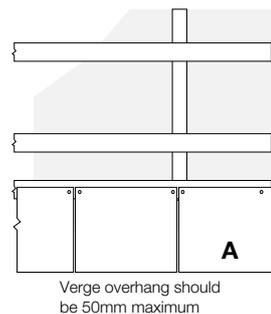

Fig. 7 1st under eaves course
- Begin laying the slates by cutting and head nailing the first under eaves course along the eaves (Fig. 7). Drill two 4mm dia. holes for nails 20mm from each edge and 15mm down from the head of the slate. The head of the slate is placed at the centre of the first batten and a 4-5mm gap should be left between each slate. An offset of slate can be used as a spacer.